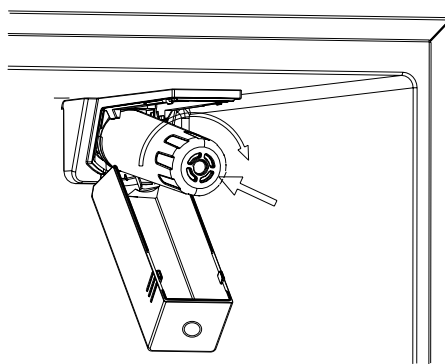

Figure 2
- Push the new filter into the housing and rotate clockwise until secure (*Figure 2*).
- To install, remove the water filter as outlined in Figure 2 above, insert the plug into the housing, rotate clockwise until snug, and then re-secure the filter cover.